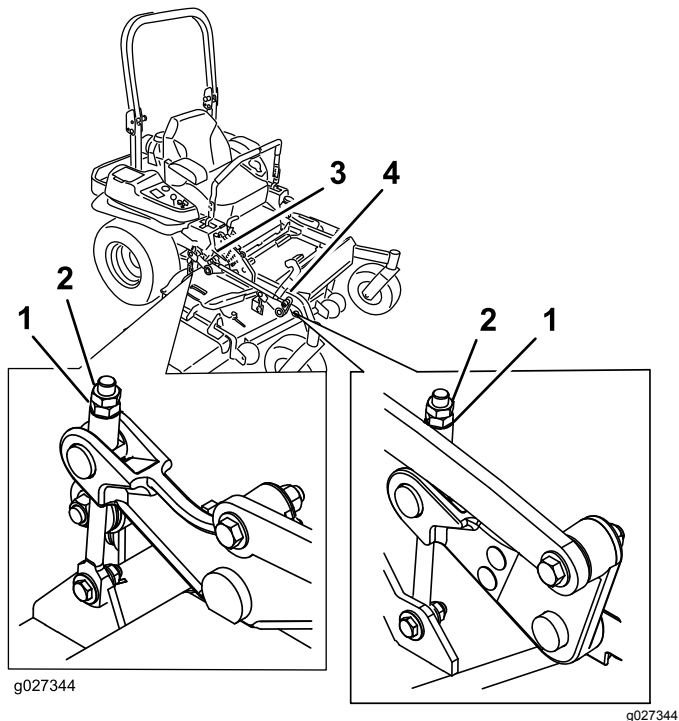

**Figure 93**
9. On both sides of the deck, measure from the level surface to the front tip of the blade (Position A) as shown in Figure 93.
- On both sides of the deck, measure from the level surface to the back tip of the blade (position B) as shown in Figure 93.